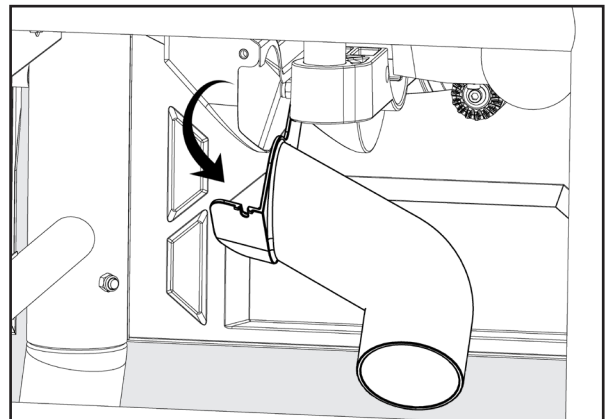

Figure 62
2. Rotate the dust port downward, and clear any sawdust or woodchips that may be inside the dust chute. See Figure 62.